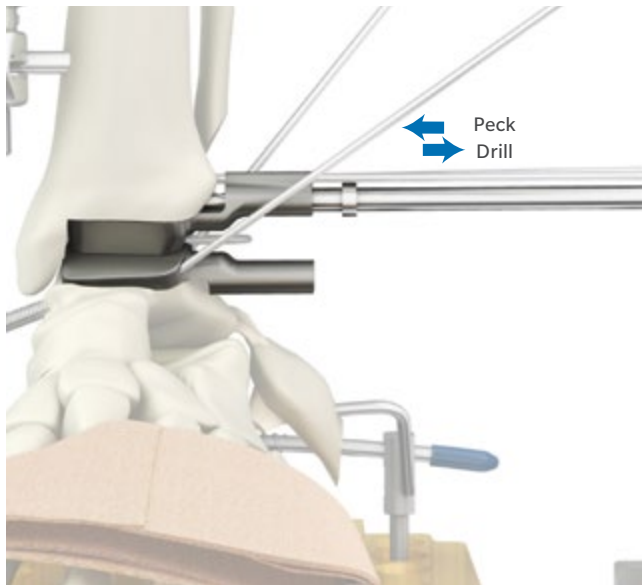

Fig. 75 Drill rail holes for the implants.
- Use a peck drilling technique to advance the drill until the stop contacts the sleeve (Fig. 75).